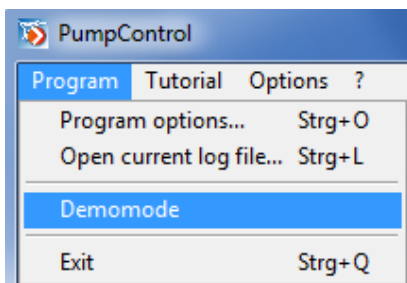
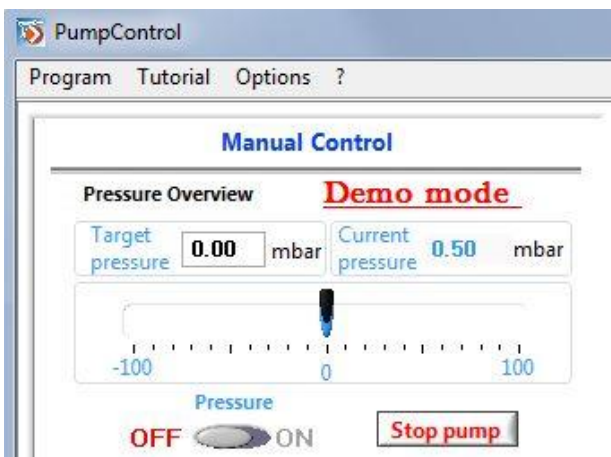

Figure 2 Changing from Demo mode to standard mode and back
Figure 3 Indication of the Demo mode in the main window
- If the Pump is recognized by the computer, the main window opens in standard operating mode (not in Demo mode!). If the Demo mode is activated (red text in Figure 3), switch back to standard mode by clicking on the option “Demomode” in the program menu (see Figure 2):